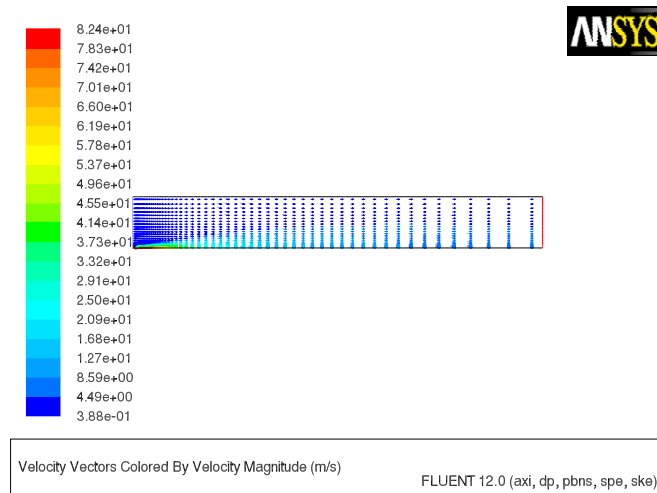

Figure 14.6: Velocity Vectors—Variable C_p
4. Display velocity vectors (Figure 14.6).